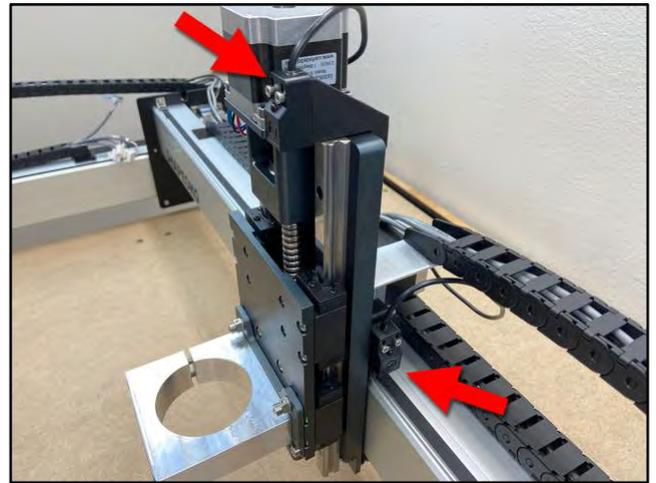

Figure 33
1. Attach the X-Axis proximity switch to the X-Axis proximity switch mount installed on the rear of the HDZ. See **Fig. 33**.
- d. Use a 2.5mm hex key and two (2) M3×18mm SHCS to secure the proximity switch.
2. Attach the Z-Axis proximity switch to the Z-Axis switch mount installed at the top of the HDZ. See **Fig. 33**.
- c. Use a 2.5mm hex key and two (2) M3×18mm SHCS to secure the proximity switch.